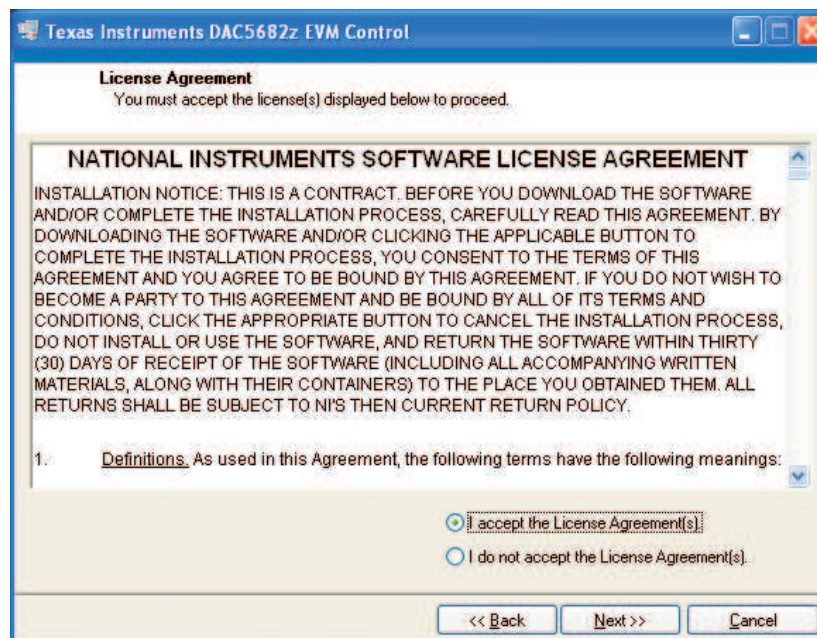

Figure 7. License Agreement
3. Select the *I accept the License Agreement(s)* option (Figure 7) and click *Next*.